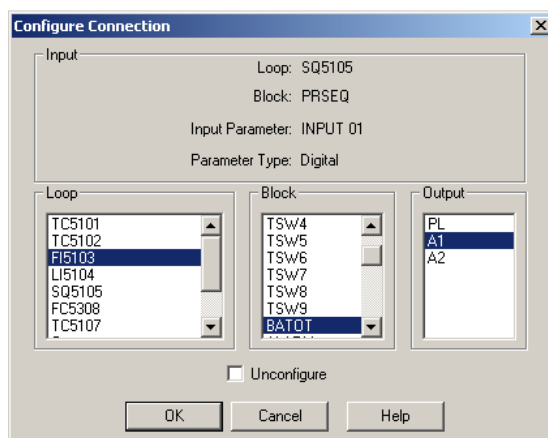

Figure 3-13 Configuration Connection dialog
2. Click **[Edit Input]**. The dialog box for a Loop/Block/Output connection is displayed. See Figure 3-13.
2. Right-click on the input connection to be unconfigured. The Configure Connection dialog appears; see Figure 3-13.